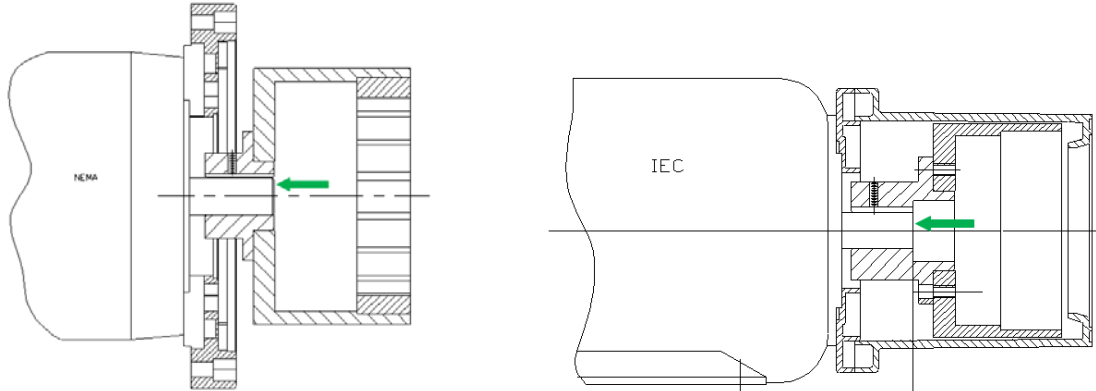

Figure 18
14. Align the keyway and slide the drive magnet onto the motor shaft until the end of the motor shaft is flush with face of the drive magnet motor or hub as shown in Figure 18. Secure with the setscrew. Application of a no-seize compound on the shaft and key will make future maintenance easier.